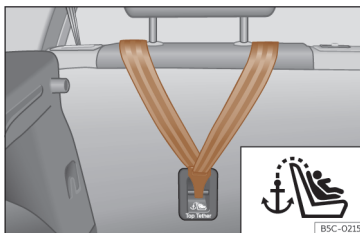
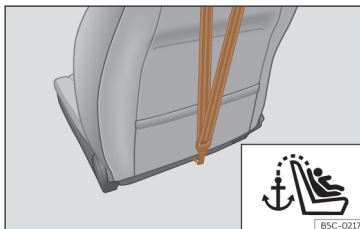

Fig. 40 Rear part of the rear seats: Top Tether strap anchor.
Fig. 41 Rear of front passenger seat backrest: Top Tether strap anchor (not available on all markets).
is located on the rear of the rear seat backrest and of the front passenger seat backrest¹⁾ (identified with the symbol ) and provides better retention >>> Fig. 40, >>> Fig. 41.
- Slide the strap and secure it properly with the anchor on the rear seat backrest >>> **Fig. 40**, >>> **Fig. 41**.